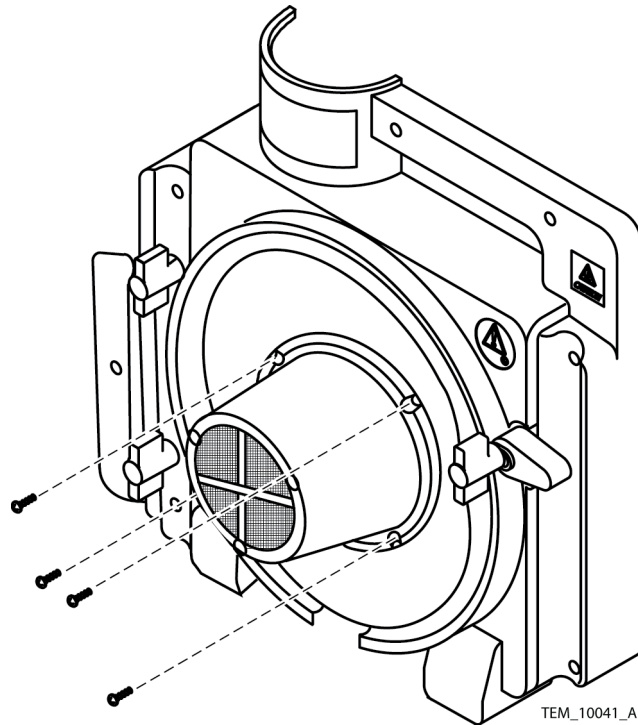

Figure 5-52. Blower Assembly Screws
21. Remove the screws holding the blower assembly to the rear cover assembly. See Figure 5-52.